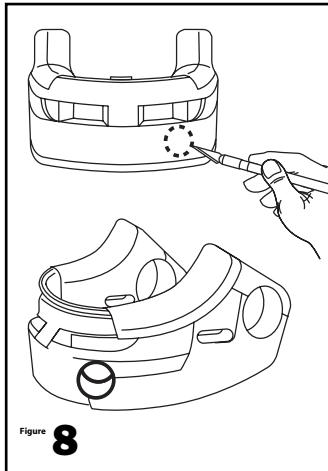

Figure 8
3. Locate an area in the nose section just to the left of center to mount the microphone. **See Figure 8.** Make sure that this placement will not interfere with any venting mechanisms or other parts of the helmet upon re-installation of the nose section.